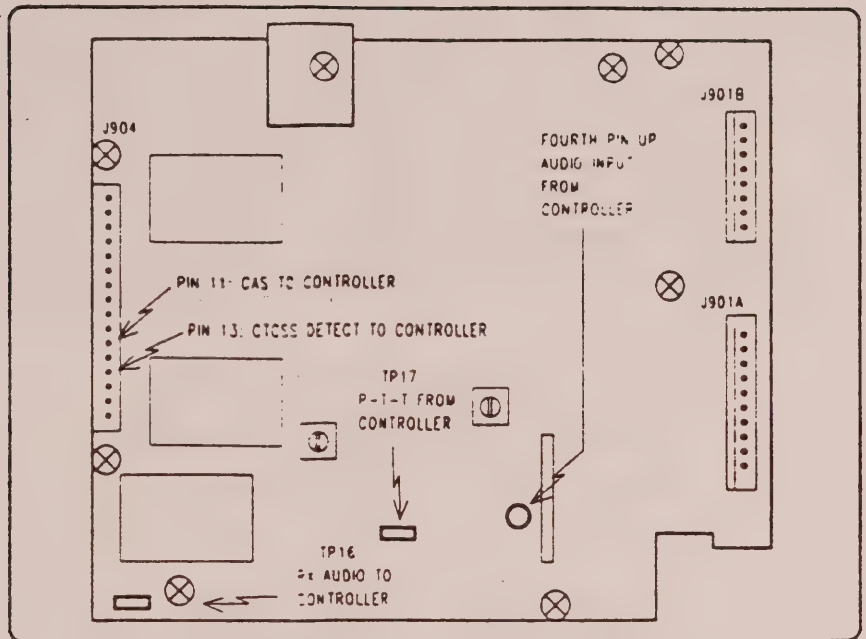

Figure 5-1. External Controller Interface Locations
- **CAS:** When no signal is present in the receiver (receiver squelched), the CAS line is held near ground. When a carrier is applied to the receiver, this line will go to approximately 9.2 volts. The squelch adjustment for the receiver, R25, is the leftmost of the two adjustments shown in Figure 5-1.